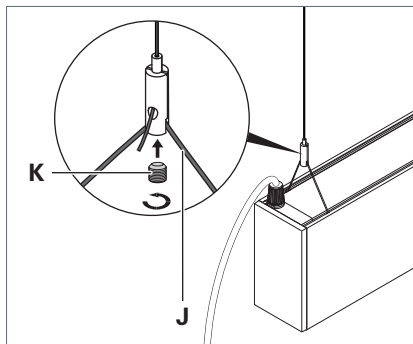

Fig. 5: Fastening the luminaire to the wire rope holder.
- ▶ Insert the wire rope **J** of the luminaire into the wire rope holder, see Fig. 5.